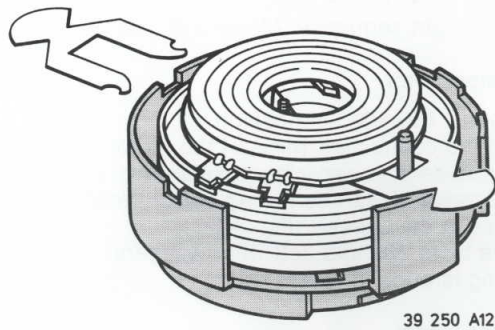

Fig. 3-1-6
**Attention:** The upper protective cover and the 2 0,15 mm mylar foils remain on the head disc during this operation (Fig. 3-1-6).